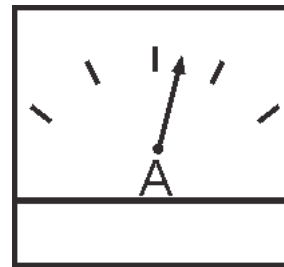

Figure 60. Ammeter (Load)
18. Observe the generator's ammeter (Figure 60) and verify it reads the anticipated amount of current with respect to the load. The ammeter will only display a current reading if the load is in use.